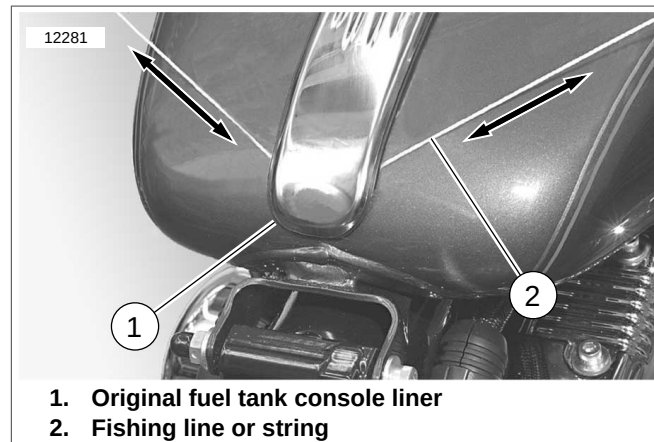

Figure 4-14. Removing Existing Console
3. See Figure 4-14. Insert the fishing line (2) between the rear of the fuel tank and the plastic liner (1) on the underside of the original console.